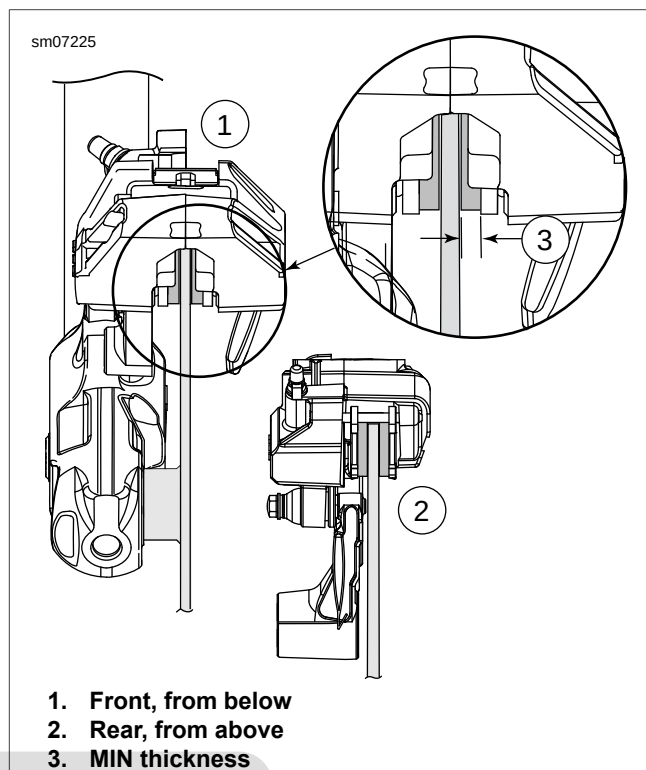

Figure 1-53. Brake Pad MIN Thickness: XR 1200X
See Figure 1-53. Replace brake pads if thickness of brake pad friction material (3) is worn to 0.040 in (1.02 mm) or less. Always replace both pads in a caliper as a set. See 1.17 BRAKE PADS AND DISCS: XR 1200X, Brake Pad Replacement: Front or 1.17 BRAKE PADS AND DISCS: XR 1200X, Brake Pad Replacement: Rear.